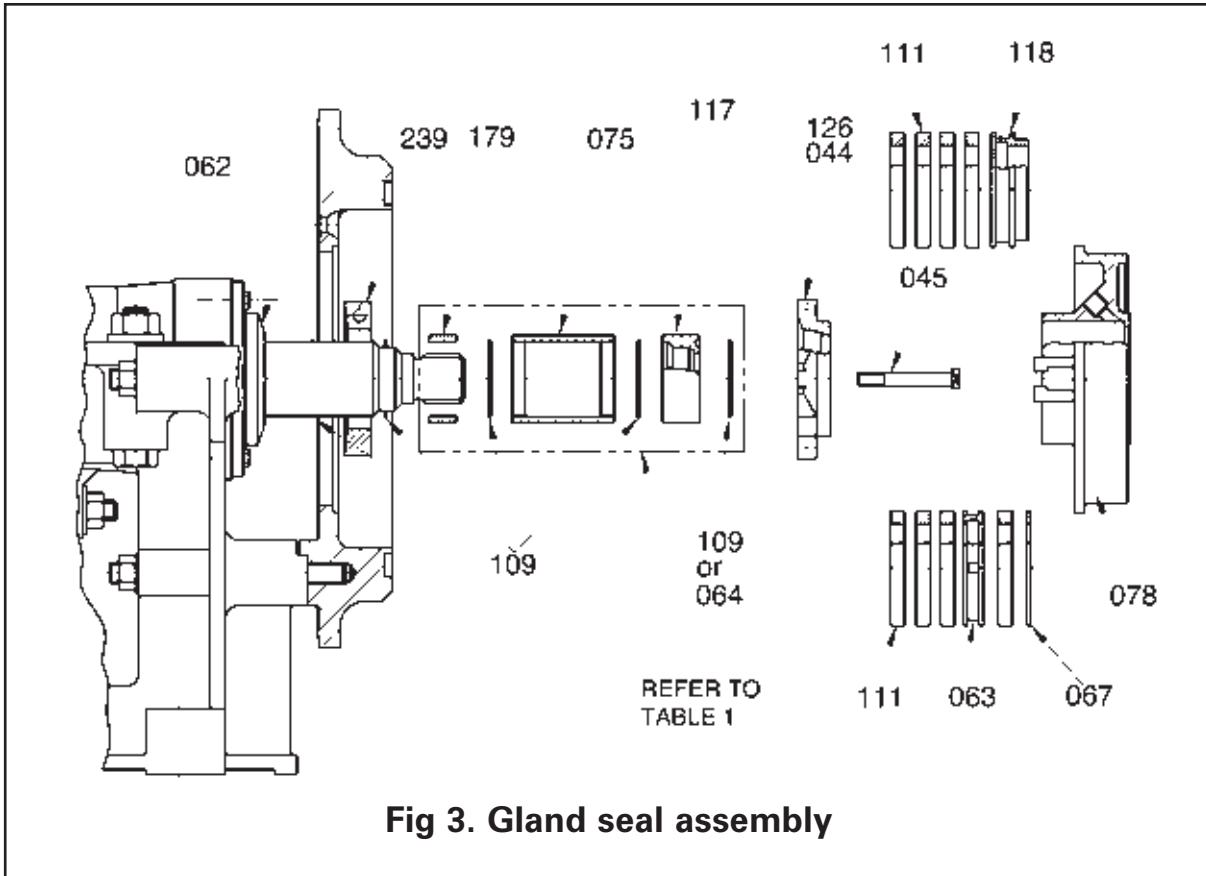

Fig 3. Gland seal assembly
Refer figs 3, 4 and 6
Figure 3 shows the relative position of impeller release collar, shaft spacer, shaft sleeve, O-Rings, etc, on the shaft. The specific arrangement of these components on the shaft may vary according to pump size. Table 1 lists the components assembled onto the shaft, in the order in which they are fitted, commencing at the **labyrinth** (062) at the Impeller-end of the bearing assembly. Pumps having similar arrangements of parts are grouped together in the table. (Generally, pumps having modified basic frames (CC, DD, etc) will have the same shaft components as those having basic frames (C, D, E, etc).)